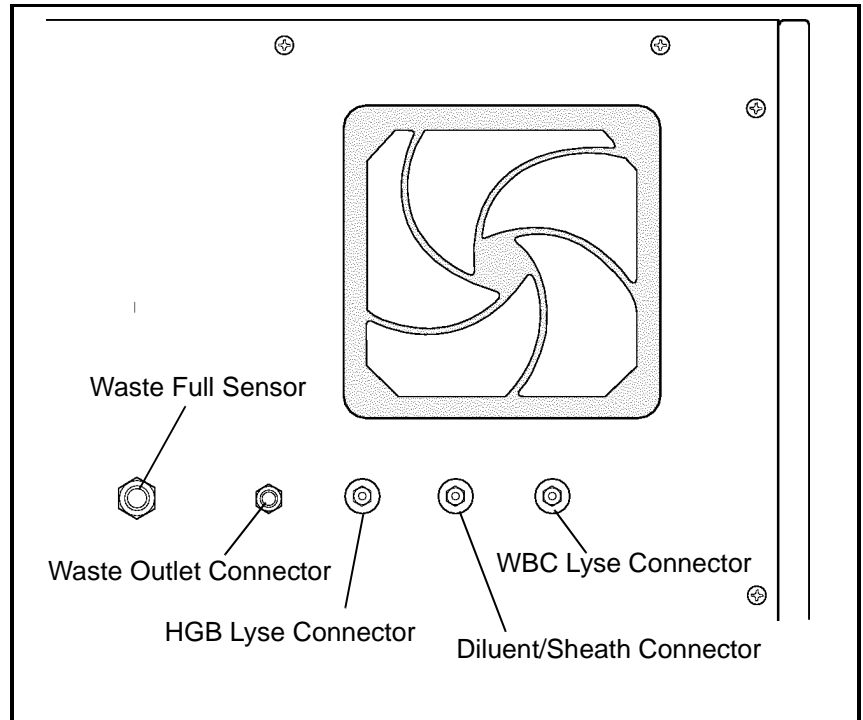

Figure 2.1: Reagent Inlet Panel
3. Attach the non-weighted end of the tubing with the **Purple WBC Lyse** label to the **Purple Connector** on the right side of the Rear Panel. (Refer to Figure 2.1.) This reagent is for the WBC dilution. Wipe the outside of the tubing with a damp lint-free pad (such as DYN-A-WIPE™) and place the weighted end into the container of CELL-DYN Sheath Reagent. Secure the cap. *Place the container on the same level as or lower than the unit.*